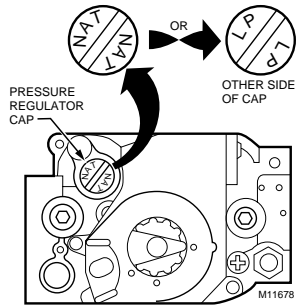

Fig. 1. Top view of convertible pressure regulator cap.
1. Remove the pressure regulator cap, Fig. 1.